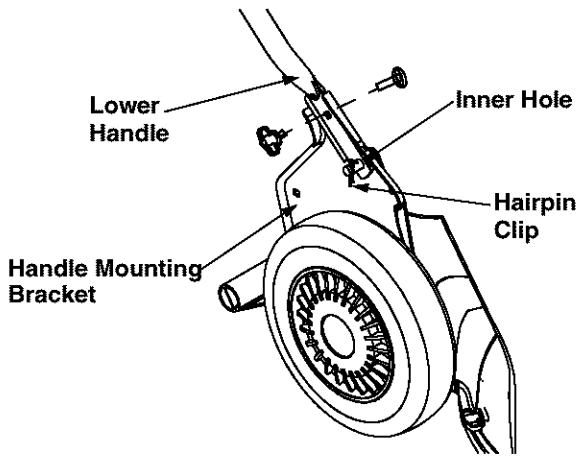

Figure 5
- Pinch lower handle against the handle mounting bracket with a pair of pliers. Move hairpin clip from the outer to the inner hole of the weld pin on the handle mounting bracket on each side. See Figure 5.